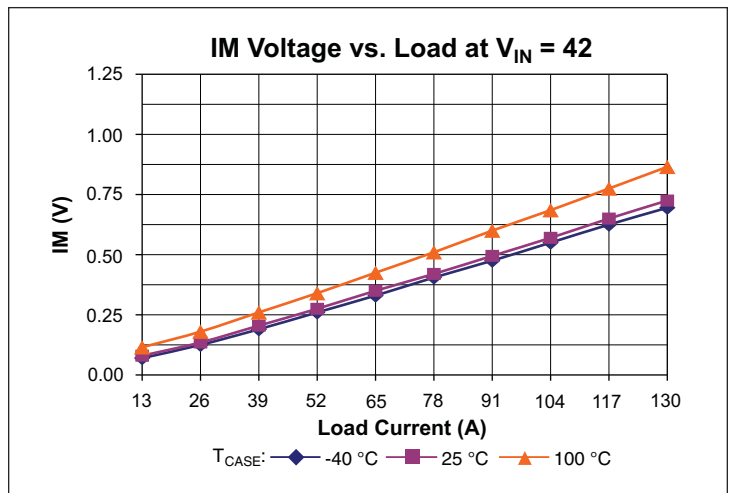

Figure 14 — IM voltage vs. load
**Current Monitor (IM)** pin provides a voltage proportional to the output current of the VTM module. The nominal voltage will vary between 0.15 V and 0.91 V over the output current range of the VTM module (See Figures 14–16). The accuracy of the IM pin will be within 25% under all line and temperature conditions between 50% and 100% load.